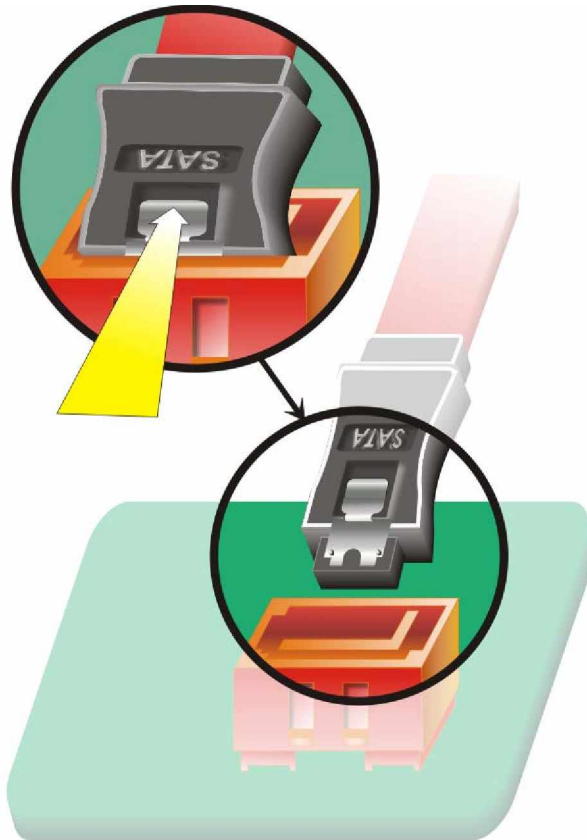

Figure 4-10: SATA Drive Cable Connection
Step 2: Press the clip on the connector at the end of the SATA cable and insert the cable connector into the onboard SATA drive connector (**Figure 4-10**).